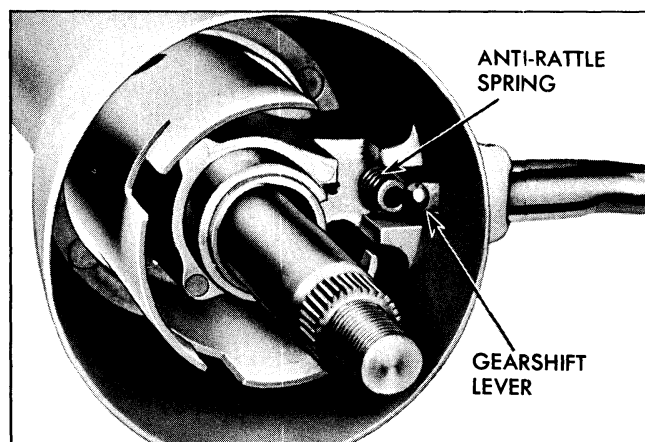

Fig. 9-19 Location of Shift Lever Spring
17. Remove gearshift lever and, using needle nose pliers, remove anti-rattle spring (Fig. 9-19).